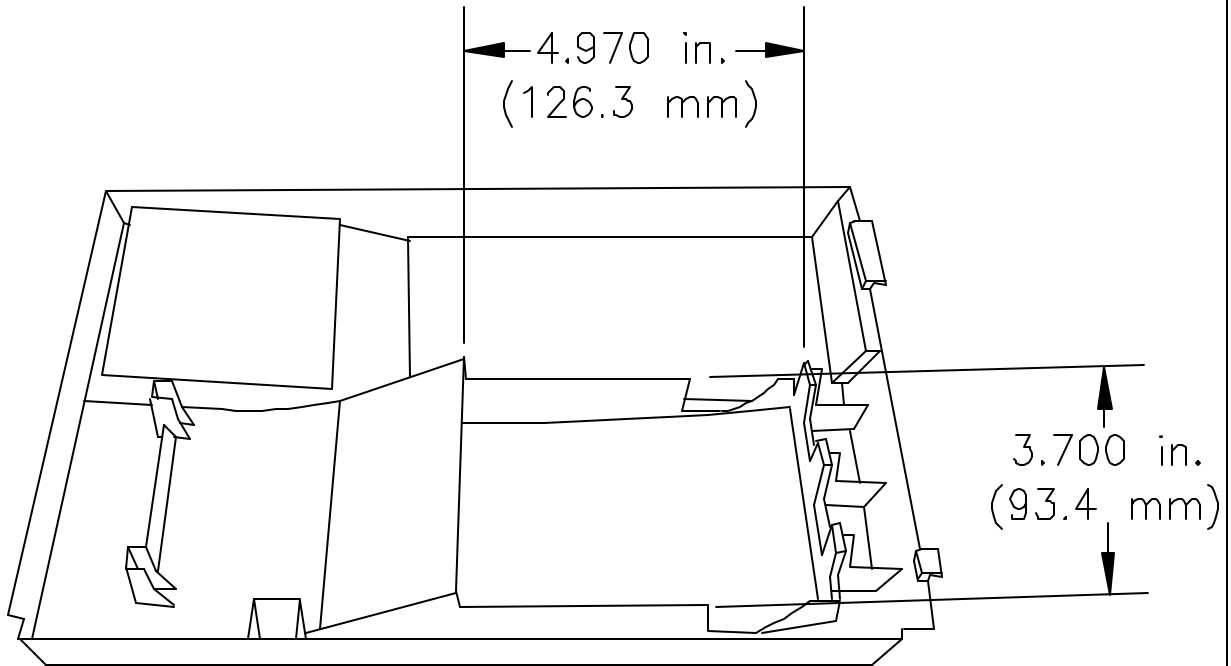

Fig. 4
6. Create a rectangular window cutout in the Front Bezel to the dimensions shown below (Fig. 4), by removing the plastic ribbing. Use the existing surface of the (3) bottom tabs as a bottom datum and the insides of the existing window cutout as a side datum. **Note :** *Only a professionally trained machinist may perform this step. Failure to use a professionally trained machinist could result in personal injury.*